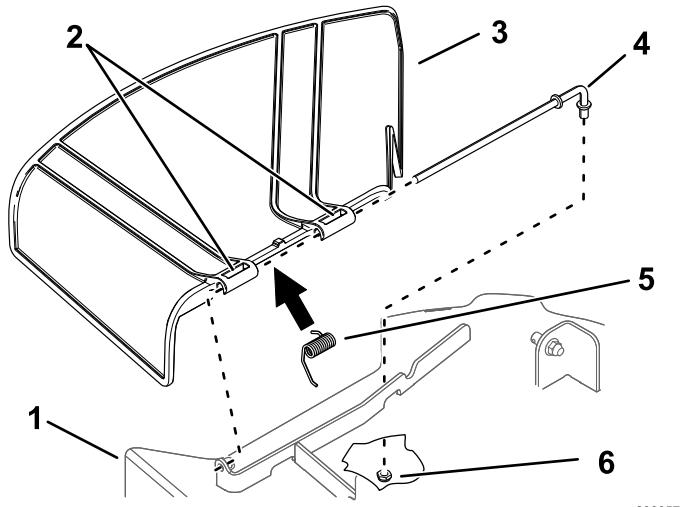

Figure 75
1. Remove the nut (3/8 inch) from the rod under the mower (Figure 75).
7. Slide the rod through the second grass-deflector bracket (Figure 75).
9. Secure the rear end of the rod into the mower with a nut (3/8 inch) as shown in Figure 75.